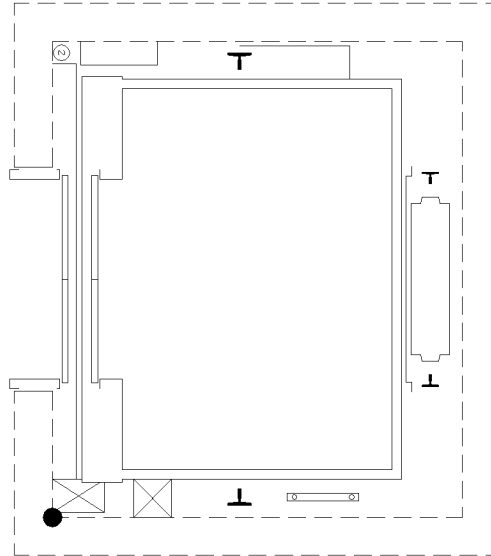

Figure 3-3.9 Elevator mirrored
18. **Mirror** the elevator as shown in Figure 3-3.9.
20. **Pick** the point identified by the **black dot** in Figure 3-3.9.
21. **Select** everything in Figure 3-3.9 except the walls which have been shown dashed for clarity (you already have walls in your plan).